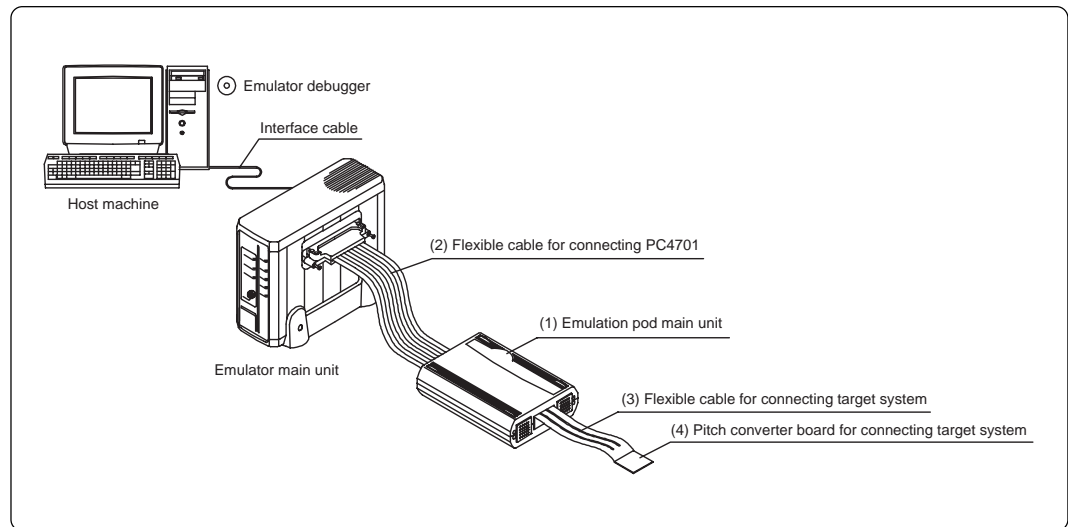

Figure 2.1 System configuration
Figure 2.1 shows the PC4701 system configuration with this product.
(1) to (4) in Figure 2.1 are included with this product package.